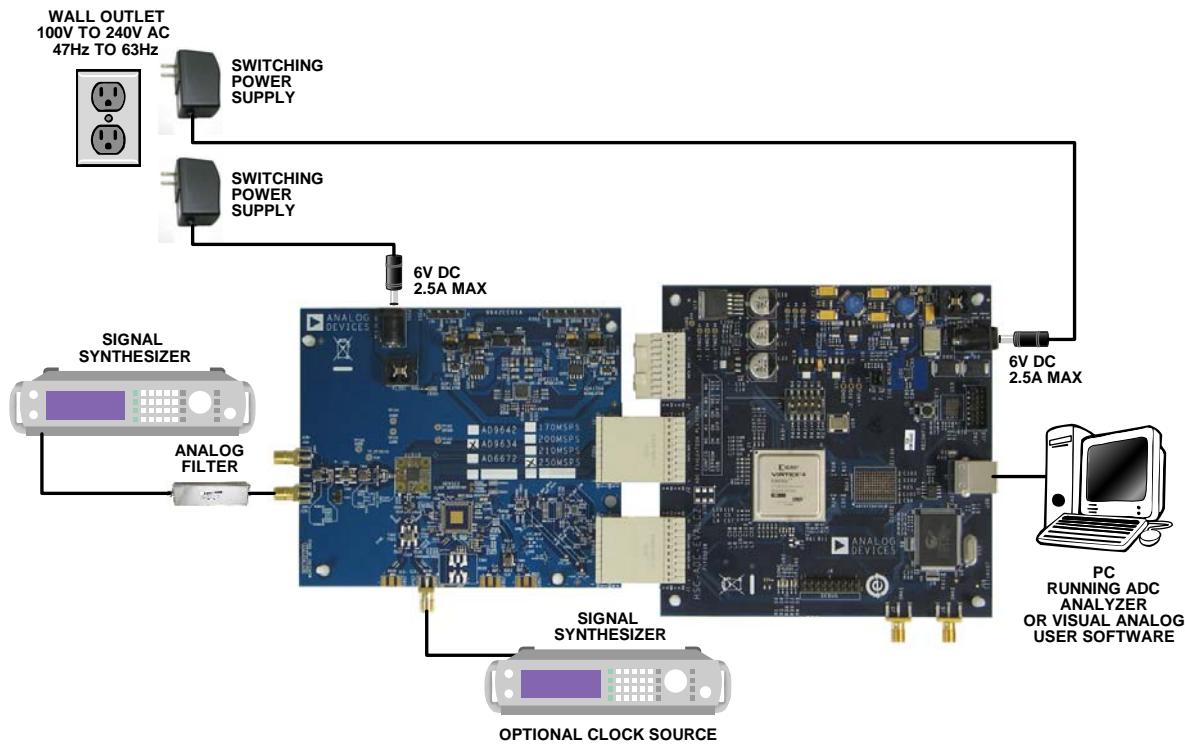

Figure 2. Evaluation Board Connection
The AD9642, AD9634, and AD6672 evaluation board provides all of the support circuitry required to operate these parts in their various modes and configurations. Figure 2 shows the typical bench characterization setup used to evaluate the ac performance of the AD9642, AD9634, or AD6672. It is critical that the signal sources used for the analog input and the clock have very low phase noise (<1 ps rms jitter) to realize the optimum performance of the signal chain. Proper filtering of the analog input signal to remove harmonics and lower the integrated or broadband noise at the input is necessary to achieve the specified noise performance.
1. Connect the evaluation board to the data capture board, as shown in Figure 1 and Figure 2.